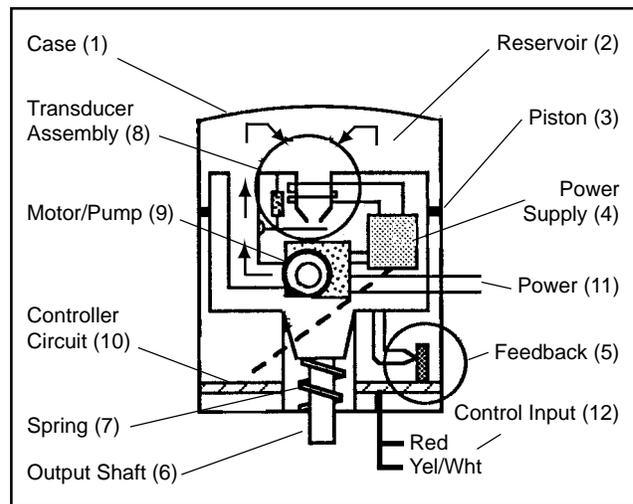

Figure 6. EA81 Actuator Operation
The permanently sealed oil-filled case (1 in Figure 6) contains a movable hydraulic piston (3) and a motor/ electric pump (9) for the hydraulic system. The pump generates a fluid pressure which is transmitted to the top of the piston. Opposing the hydraulic force is the spring (7) of the damper or valve linkage. The motor/ electric pump is powered by the input supply voltage (11) and runs continuously. A regulated Vdc power supply (4) is powered by a transformer winding from the motor/electric pump. The control signal (4 to 20 mA) input (12) is compared through the actuator controller circuit (10) to shaft position (5). The output of the actuator controller circuit positions the transducer flapper (8) for proportional positioning of the shaft (6).